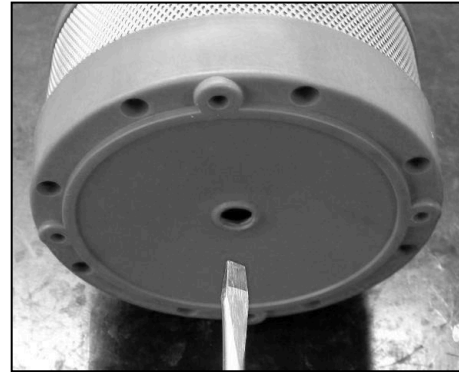

Fig. 7.3B
- Use a flat blade screw driver to turn the impeller shaft counter clockwise (looking at the bottom of the pump). Rotate at least one full turn. Reference Fig. 7.3B.
- Insert the black plug (item 18) back into the center hole in the base of the pump (item 20).